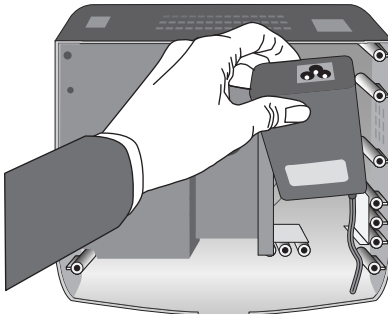

Figure AC.4
5. Pull out the AC Adapter and cord (Figure AC.4).